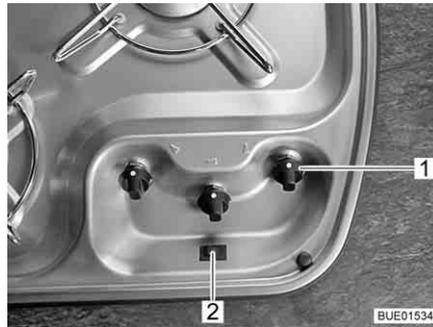
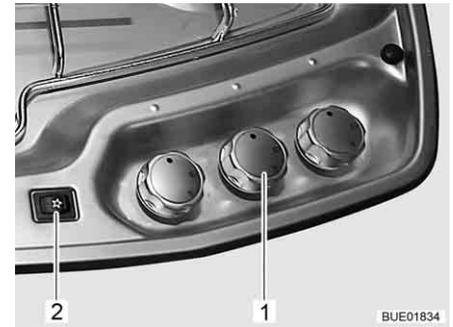

Fig. 199 Operating controls for gas cooker (Viseo)
Fig. 200 Operating controls for gas cooker (Elegance)
- Turn the control knob (Fig. 199,1 or Fig. 200,1) on the burner you wish to use to the ignition position (large flame).
- Press lighting knob (Fig. 199,2 or Fig. 200,2). Ignition sparks are generated at the burner.